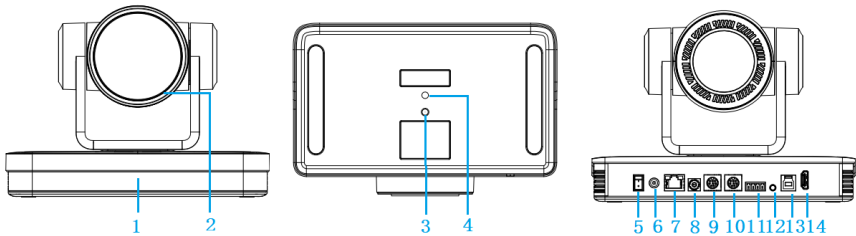

Figure 1.1 Product Interface
A. Network Cable Connection Port: No.12 in Figure1.1;
A. HDMI Video Cable Connection: Refer to No.11 in Figure1.1.
A. 3G-SDI video cable connection: Refer to No.10 in Figure1.1